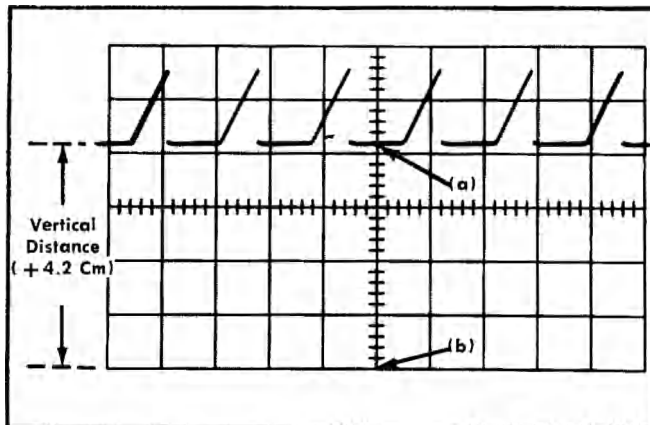

Fig. 3-2. Measuring instantaneous voltage with respect to some reference.
3. Set the Channel 1 AC-DC-GND switch to GND and position the trace (with the Channel 1 POSITION control) to one of the horizontal graticule lines such as point (b) in Fig. 3-2. This line will be used as a ground (or zero) reference line. In any case, the reference line chosen will depend upon the polarity and DC level of the signal to be measured. Do not move the Channel 1 POSITION control after the reference line has been established.
7. Measure the vertical distance in centimeters from the ground (zero) reference line established in step 3 to the point on the waveform that you wish to measure, such as between (a) and (b) in Fig. 3-2. If the PULL TO INVERT switch is pushed in and the point on the waveform is above the reference line, the polarity is indicated to be positive (+). If the point is below the line, the polarity is negative (—). If the PULL TO INVERT switch is pulled out, the indicated polarities will be reversed.
8. Multiply the measured distance by the setting of the VOLTS/CM switch and the attenuator factor, if any, of the probe. This is the instantaneous DC level of the point measured. For example, assume the vertical deflection is 4.2 cm above the reference line (see Fig. 3-2) using a 10 $\times$  attenuator probe with the PULL TO INVERT switch pushed in and the VOLTS/CM switch set to 2. Substitute these values in the following formula: